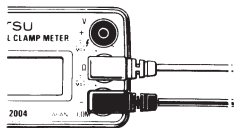

Fig. 7
- (2) Insert the red test lead into the OHM terminal and black test lead into the COM terminal as shown in Fig. 7.
- (3) First, make certain that the display shows overranging with no input connected. With the test leads shorted, make certain that the display reads zero (00.0ohm). A count of 00.2ohm or thereabout may sometimes be displayed. This is due to the resistance of the test leads and does not indicate a faulty condition of the instrument.